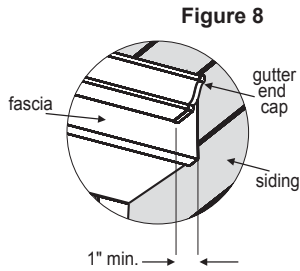

Figure 8
- Ensure gutters have end caps. Maintain a minimum 1" gap between end caps and siding & trim (fig.8).